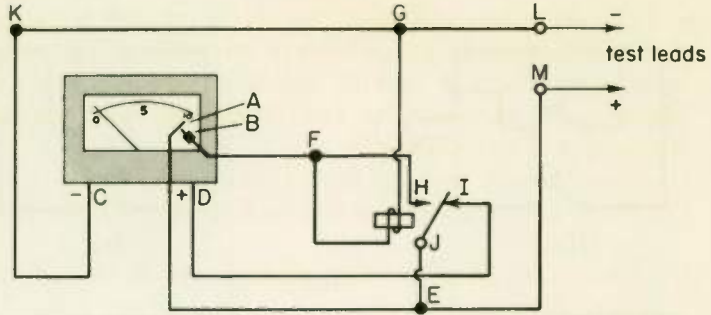

Fig. 41
8. The voltmeter in Fig. 41 uses a relay to protect it from overload. When the indicator needle swings all the way to the right (indicating an overload), it hits contact A, pushing A over so as to touch B. The relay then operates, cutting off the current from the meter, so that the meter does not burn out. When the test leads are held across a voltage within the range of the meter, what is the current path?
- (1) From L to G, through relay to F, through meter movement to A, to E, to M
- (2) From L to G, to K, to C, through the meter to E, to M
- (3) From L to G, through relay to F, through relay contacts to J, to M
- (4) From L to G, to K, to C, through meter to B, through relay contacts to J, to M
- (5) From L to G, to K, to C, through meter to D, to I, to J, to E, to M
9. When the relay, Fig. 41, operates because of overload, current through the meter is cut off because the current path is opened
- (1) between A and B.
- (2) between H and J.
- (3) between I and J.
- (4) between C and D.
10. When the voltage being measured is so high as to overload the meter, Fig. 41, the relay coil is energized, the path of the energizing current needed to operate the relay being
- (1) from L to G, through the coil to F, to B, to A, to E, to M.
- (2) from L to G, through the coil to F, to B, to A, to D, to I, to J, to E, to M.
- (3) from L to G, through the coil to F, to I, to J, to E, to M.
- (4) from L to G, to K, to C, through the meter to A, to B, to F, through the coil to G.
11. After the relay coil, Fig. 41, has been energized from an overload
- (1) From *L* to *G*, to *K*, to *D*, to *I*, to *J*, to *E*, to *M*
- (2) From *L* to *G*, through coil to *F*, to *B*, to *D*, to *I*, to *J*, to *E*, to *M*
- (3) From *L* to *K*, to *C*, through meter to *B*, to *F*, to *H*, to *J*, to *E*, to *M*
- (4) From *L* to *G*, through coil to *F*, to *H*, to *J*, to *E*, to *M*
12. After the relay, Fig. 41, has operated because of an overload, what must be done before the relay will release?